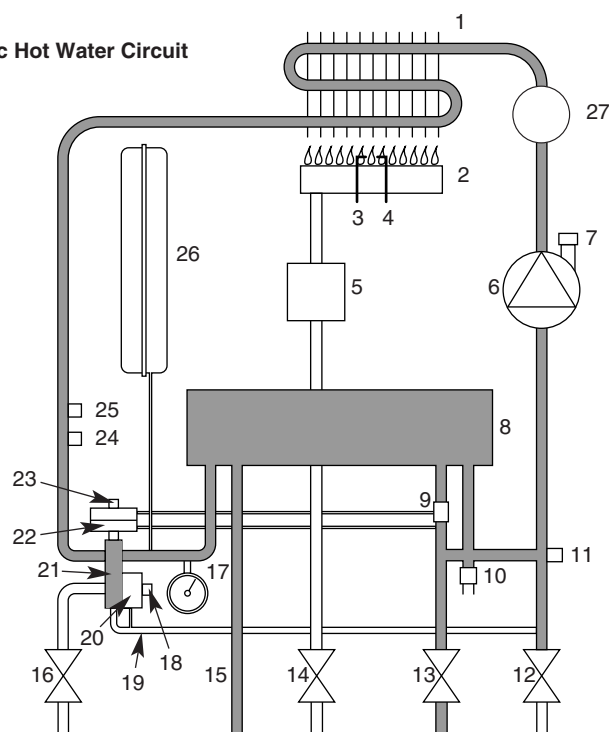

Fig. 5
3.2 Domestic Hot Water Mode (Fig. 5)